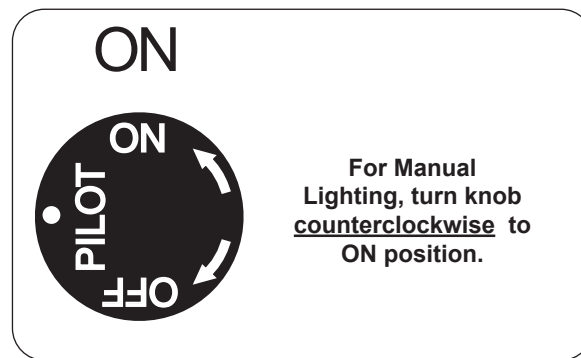

Fig. 39-3 Control knob detail (ON)
2. Turn the gas control knob counterclockwise to **ON** (Fig. 39-3) to ignite the burner. The valve will open and the burner will light.
**WARNING:** If the burner fails to light within 5 seconds, turn the control knob clockwise to **PILOT**. Allow five (5) minutes for any gas in the unit to dissipate, then repeat step 2 above. **IF YOU SMELL GAS, SEE STEP B AT BEGINNING OF LIGHTING INSTRUCTIONS.**